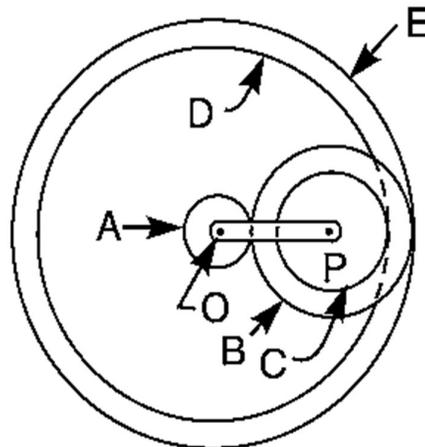

Figure 14b
- (b) Figure 14b shows diagrammatically a compound epicyclic gear train. (16) 3 AP